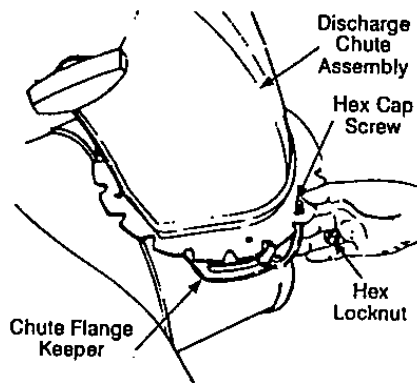

FIGURE 5
- Insert hex cap screws up through chute flange keeper and chute assembly as shown in figure 5. Secure with hex locknuts. Do not over tighten.